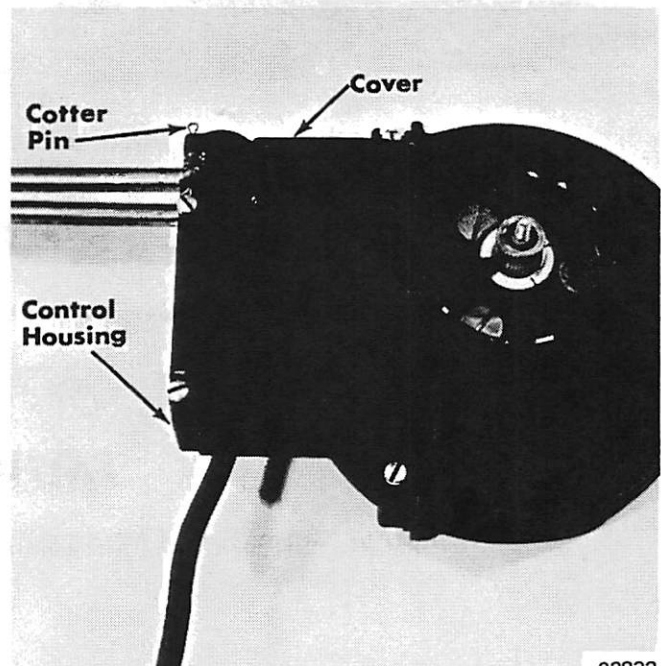

Figure 5. Cover and Cotter Pin Installation
4. Reinstall covers and cotter pins in control housing. (Figure 5)